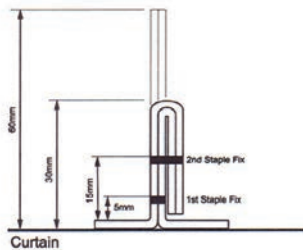

Figure 2
- Loose fix the top edges of the curtain at 300 mm centres, to the underside of the soffit. Using 65 x 6 mm diameter "sleeve" anchor bolts and 38 mm diameter washers. N.B. All overlaps running vertically, to be 60 mm as shown in figure 2.
- Fix vertical seams at 60 mm centres, 5 mm away from the face of the curtain and staple the vertical seams using P40 staples (see Figure 2).
- Fold over all 60 mm overlaps in half to form a double overlap and staple together as before, at 60 mm centres, 15 mm away from the face of the curtain and at a 30 mm stagger to the first fix positions, as shown in Figure 2.